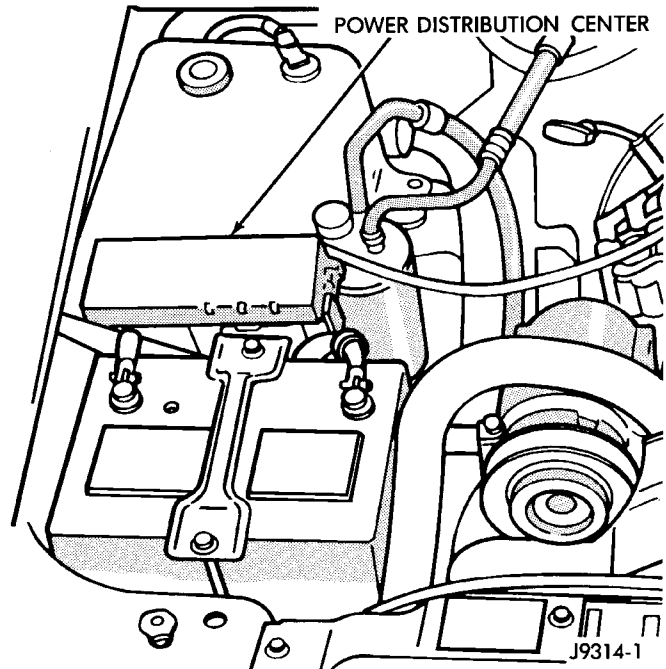

Fig. 36 Power Distribution Center (PDC)
(2) Inspect the battery cable connections. Be sure that they are clean and tight.
(3) Inspect fuel pump relay and air conditioning compressor clutch relay (if equipped). Inspect the ASD relay connections. Inspect starter motor relay connections. Inspect relays for signs of physical damage and corrosion. The relays are located in the Power Distribution Center (PDC) (Fig. 36). Refer to label on PDC cover for relay location.